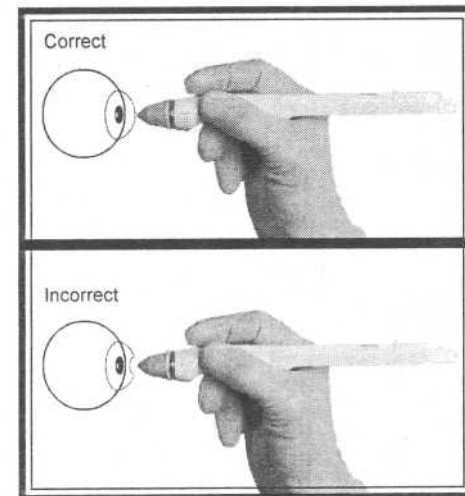

Figure 4-1 Corneal Applanation
4. Brace the heel of your hand on the patient's cheek for stability while holding the Tono-Pen XL unit perpendicular to and within 1/2 inch of the patient's cornea. (See Figure 4-1 for correct positioning.)